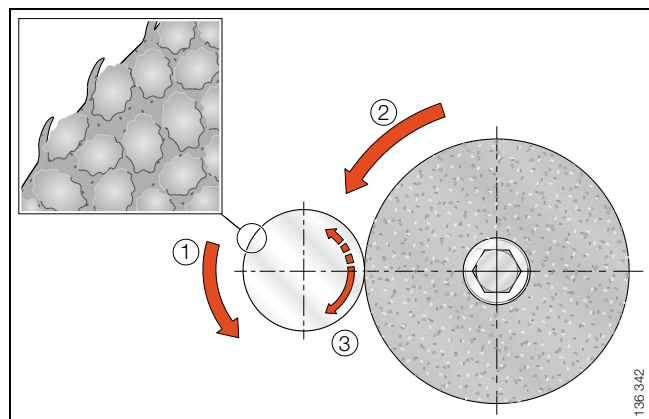

Figure 13 · Grinding of a cast shaft
- The direction of rotation of cast shafts in the application should be the same as that of the grinding wheel during machining, since increased wear should be anticipated if rotation is in the opposing direction (Figure 13).